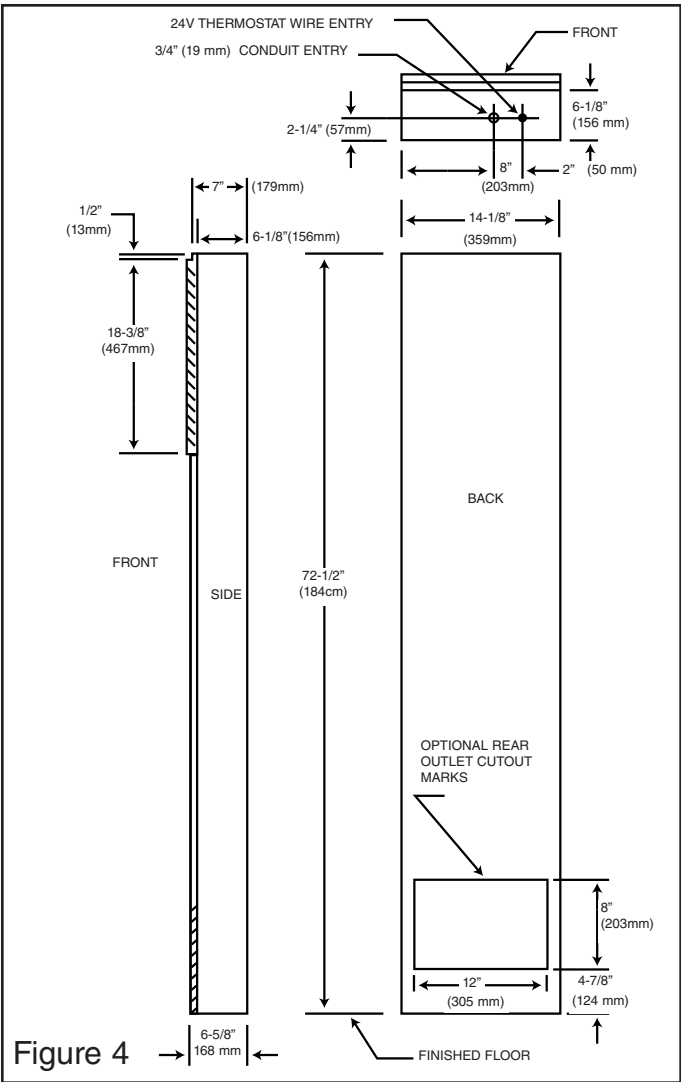

Figure 4
2. If this is impractical, entry holes 1 inch (25 mm) for electrical conduit and 1/2 inch (13 mm) for thermostat wire may be drilled through either wall stud above the furnace and the wiring may be routed from an adjoining stud space. You may also route the wiring from the crawl space or basement to a point above the furnace to match the openings in Fig. 4.
1. If impractical to route the wiring to the furnace from the attic, entry holes 1 inch (25 mm) for electrical conduit and 1/2 inch (13 mm) for thermostat wire may be drilled through either wall stud above the furnace and the wiring may be routed from an adjoining stud space. You may also route the wiring from the crawl space or basement to a point above the furnace to match the openings in Fig. 4.
3. Electrical supply opening must be located at 2 inches (51 mm) above the furnace top to match opening shown in Fig. 4., page 6.